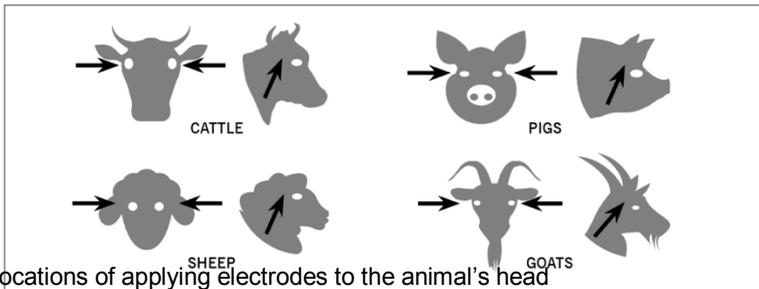

Fig. 6. Locations of applying electrodes to the animal's head
3. Place the electrodes on both sides of the animal's head so that each electrode is placed between the eye and the ear of the animal (Fig. 6).